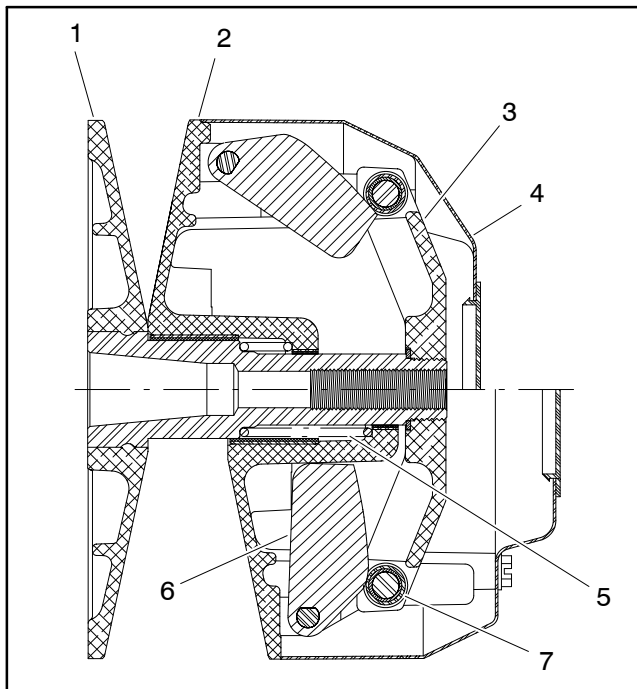

Figure 2
The drive clutch used on vehicles with serial numbers below 310000000 (Fig. 2) includes three (3) rollers, three (3) cam weights and a spring to control operation of the moveable sheave.